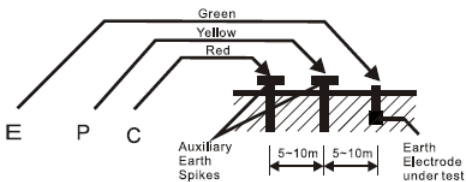

Fig.1
- (1) Connect green, yellow and red test leads to instrument terminals E, P and C with auxiliary earth spikes P1, C1 stuck into earth “IN A STRAIGHT LINE “. (Fig.1)
- (2) Rotary the function switch to suitable range then press the pushbutton to test and take the reading.
- (6) Since measuring current is as low as 2 mA, the earth leakage breaker (ELCB) does not trip even if the earth side of the commercial power supply with an ELCB is used.
* Follow the proper connection such as Fig1.